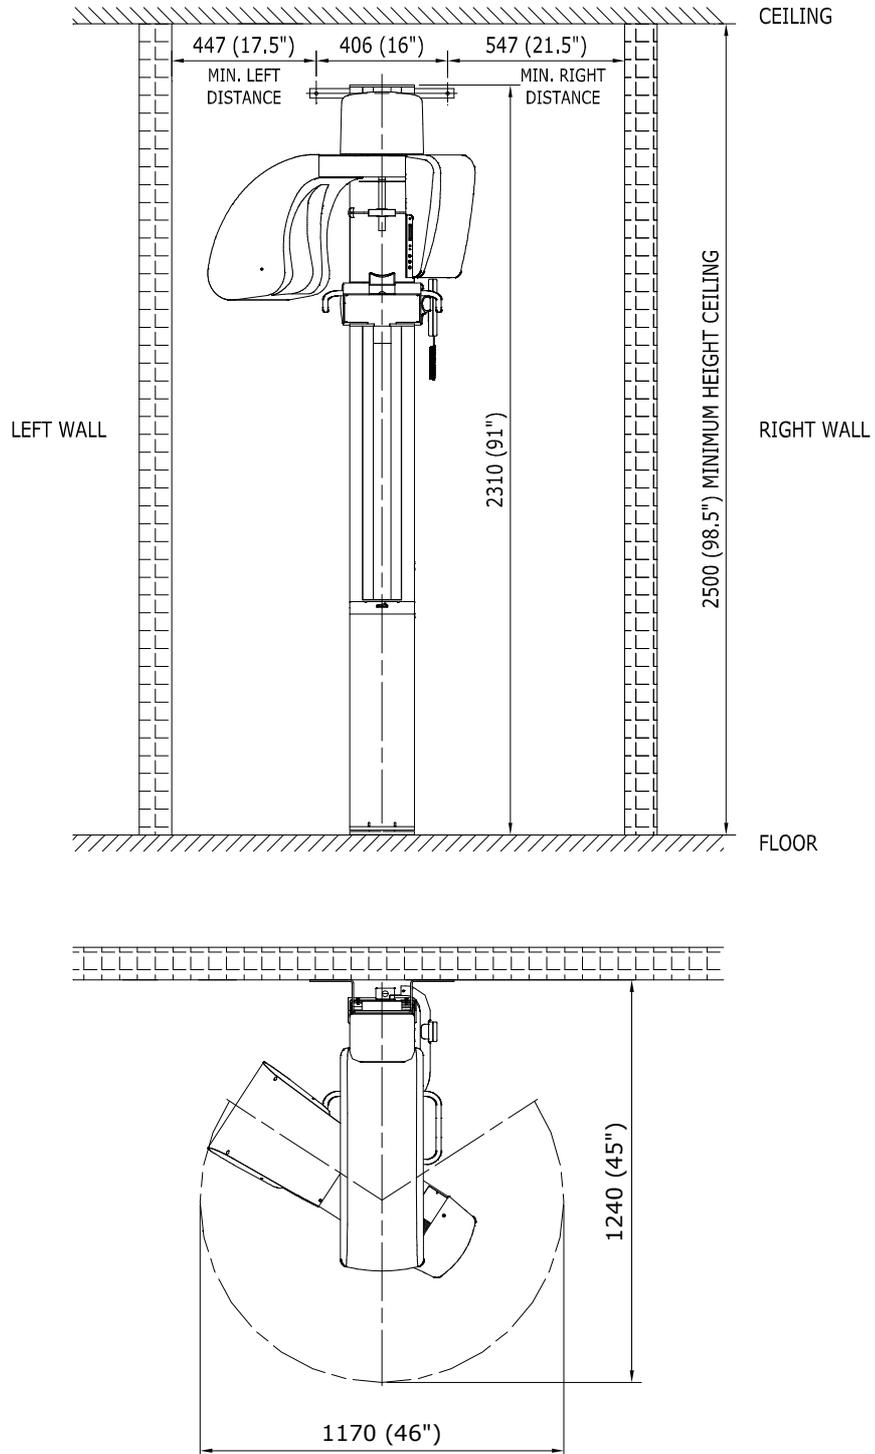

Figure 5-1
- a minimum room ceiling height of 8 ft (2,5 mt) and an area to accept ROTOGRAPH-D with its different configuration as showed in Figure 5-1.